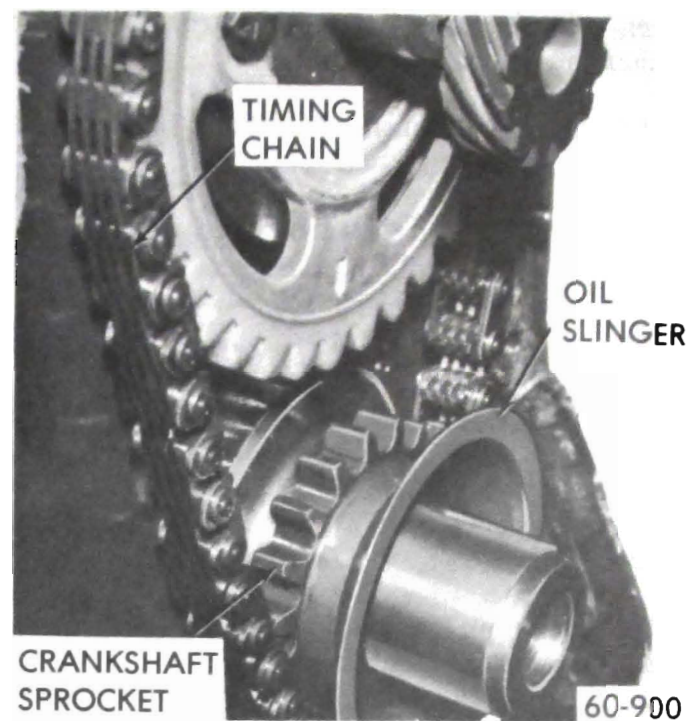

Figure 60-56 - Oil Slinger Installation
4. Assemble slinger on crankshaft with I.D. against sprocket (concave side toward front of engine). See Figure 60-56.